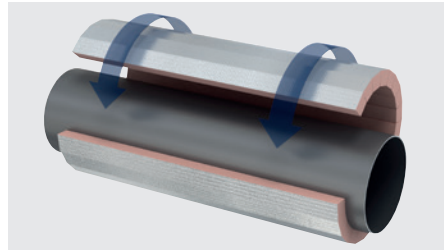

Figure 15: Insulation is wrapped around the ductwork
- Rigid insulation is cut to size to suit the diameter of the ductwork and wrapped around the ductwork as shown in Figure 15.